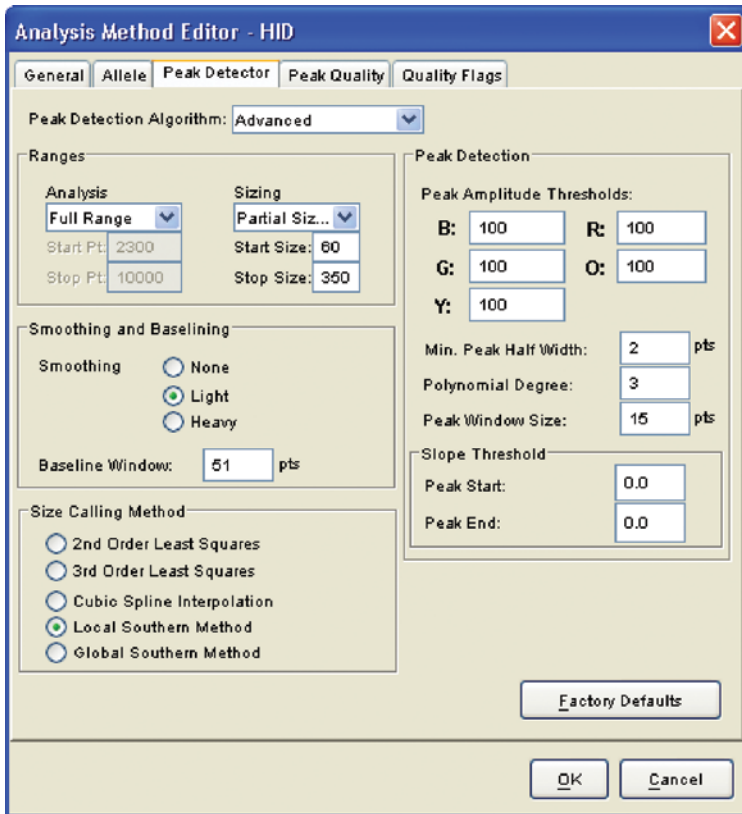

Figure 3. The Peak Detector tab.
10. Select the Peak Detector tab. We recommend the settings shown in Figure 3.